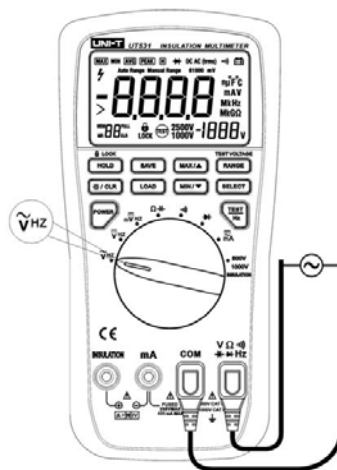

Figure 5. Measuring AC Voltage
*Measuring AC Voltage* (see figure 5)